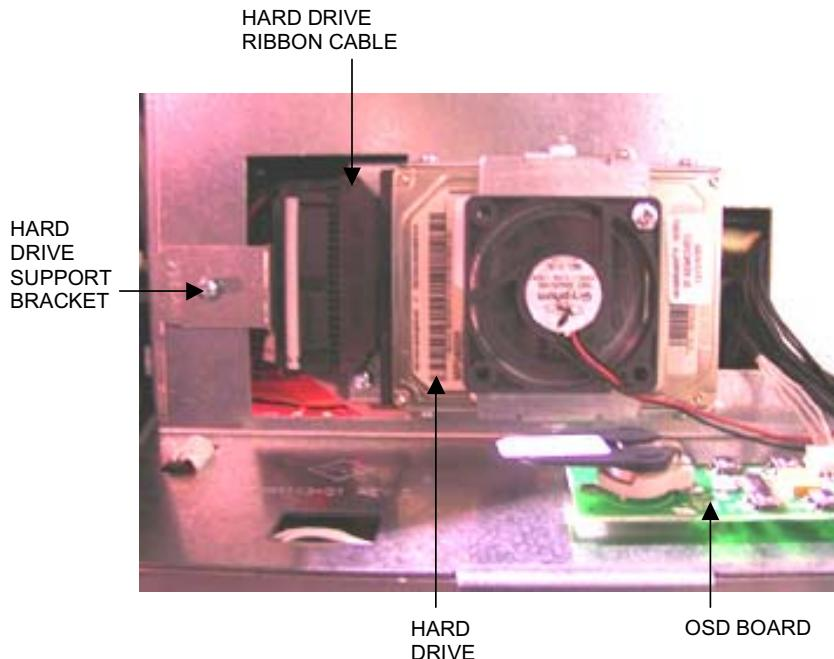

FIGURE 5 - HARD DRIVE ASSEMBLY ON ELECTRONICS BOX
3. Loosen the screw on the hard drive support bracket (if applicable) and disconnect the cables from the hard drive. See Figure 5.
3. Feed the hard drive cables and OSD board connections through the electronics box cover, then put the cover in place over the electronics box and secure it with the 2 screws you removed earlier. See Figure 5.